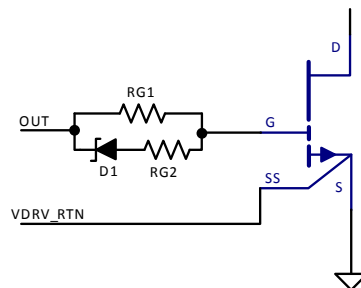

Figure 3: Separate turn-off resistor
- A smaller turn-off resistor can be used for better immunity to cross conduction. If the driver does not support a separate turn-off resistor, use a diode in parallel as shown in Figure 3. Having a much smaller gate charge means a significantly lower gate drive power loss so a smaller surface mount resistor such as 0603 can be used for the gate resistors, which also allows the driver to be placed closer to the gate and thus provides a tighter gate loop layout.